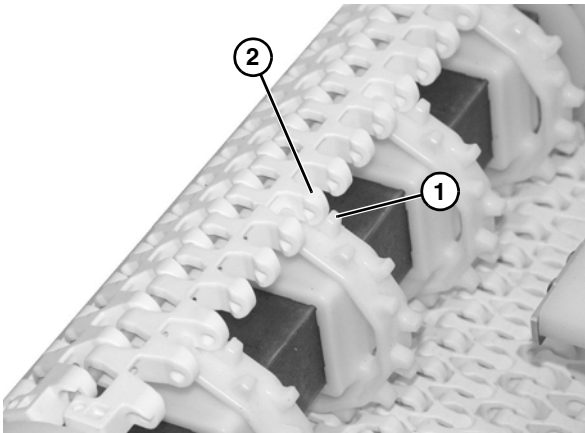

Figure 14
4. Wrap the belt around the drive end of the conveyor, making sure the sprocket teeth have engaged the belt, with concave teeth (**Figure 14, item 1**) mating with rounded section (**Figure 14, item 2**) of belt.